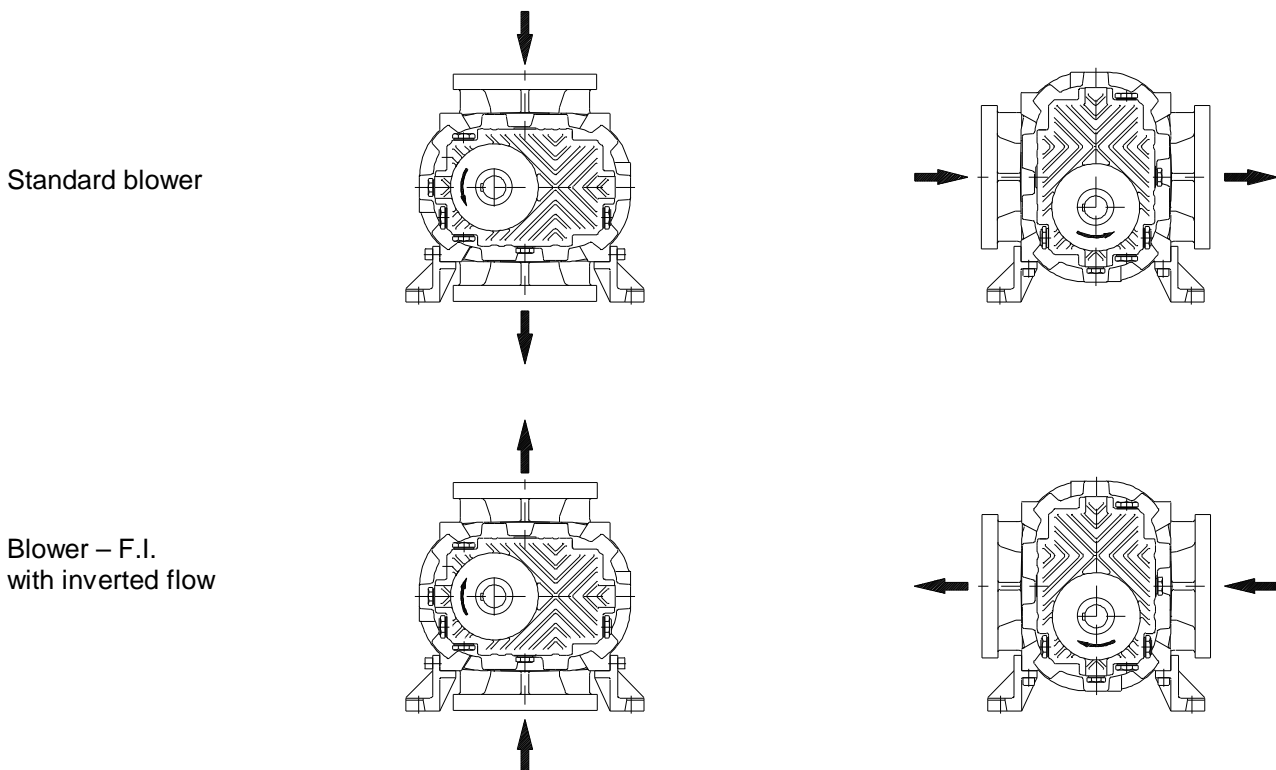

Fig. 5
**Warning :** Do not use the blower with a direction of rotation or a flow direction different from that one shown in Fig 5.